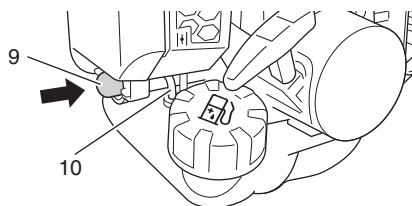

Fig. 9
(2) Push priming bulb (9) several times so that fuel flows through return pipe (10). (Fig. 9)